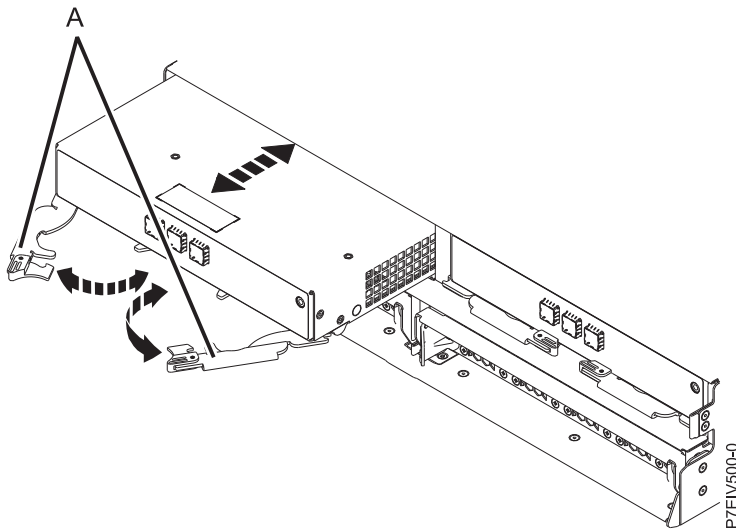

Figure 1. Removing an ESM from the disk drive enclosure
- b. Open the two release levers (**A**) as shown in Figure 1 on page 8.